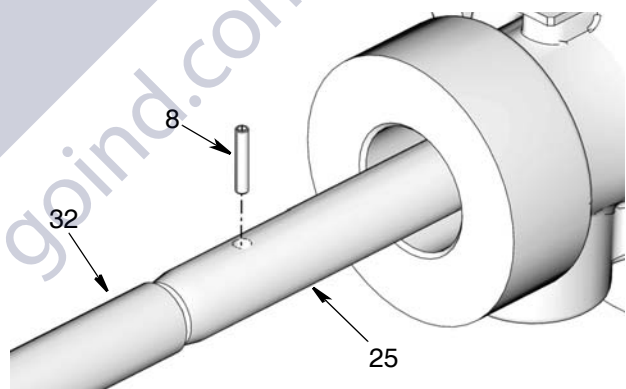

Fig. 18
14. Screw the connecting rod (32) and the displacement rod (25) together, aligning the pin hole in both pieces to allow the pin to be pushed through (Fig. 18).
15. Replace the pin (8). Use a rubber hammer to tap the pin into place, being careful to make sure the sides of the pin are flush with the outside surface of the connecting rod (Fig. 18).